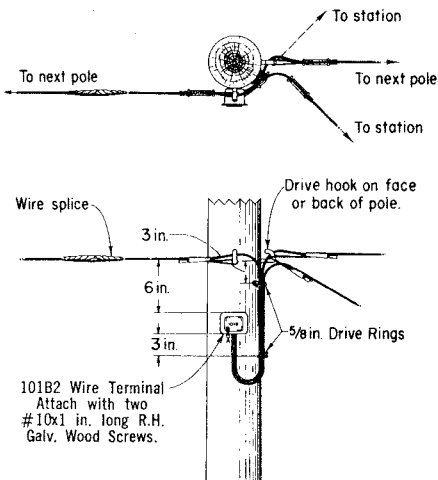

Fig. 9 — Complete Party Line Tap
- (1) Install a 101B2 wire terminal on the pole directly below the drive hook.
- (2) Place a second drive hook on the face or back of the pole at the same level as the existing hook supporting the through drop wire.
- (3) After testing to make sure the line is not in use, cut the through drop wire about 2 feet from the first drive hook. The drop wire puller can be used to hold the wire before the cut is made.
- (4) Splice a piece of drop wire to the short end of the through drop wire supported by the drop wire puller. Install a drop wire clamp on the spliced wire and place it on the new drive hook on the face or back of the pole.
- (5) Place drive rings on pole and run the wire through them and terminate the two ends of the through drop wire on the binding posts of the wire terminal. Terminate the bridging drop wire in the wire terminal on top of the through wire connections. The complete party line tap is illustrated in Fig. 9.
- (1) Place a 101B2 wire terminal on the pole and cut the existing subscriber circuit into it.
- (2) Terminate the drop wire extension in the 101B2 wire terminal to make the bridging connection.
- (3) Splice out the existing drop loop and terminate it in the wire terminal. The complete arrangements are similar to those shown in Fig. 9.